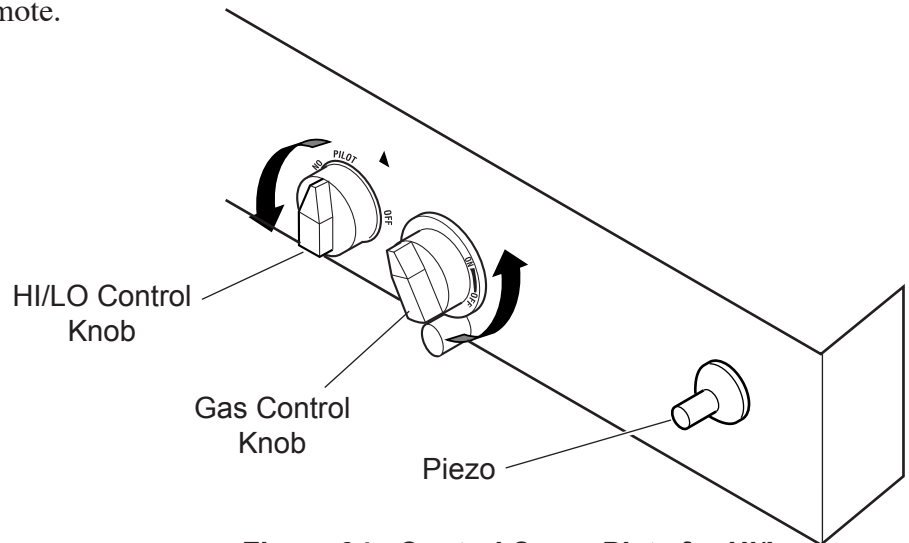

Figure 34 - Control Cover Plate for Hi/Lo
4. See Figure 34 for the location of the piezo ignitor and control knob. Push in gas control knob slightly and turn control knob clockwise to the OFF position.
11. Control flame with Hi/Lo control knob. See Figure 34.